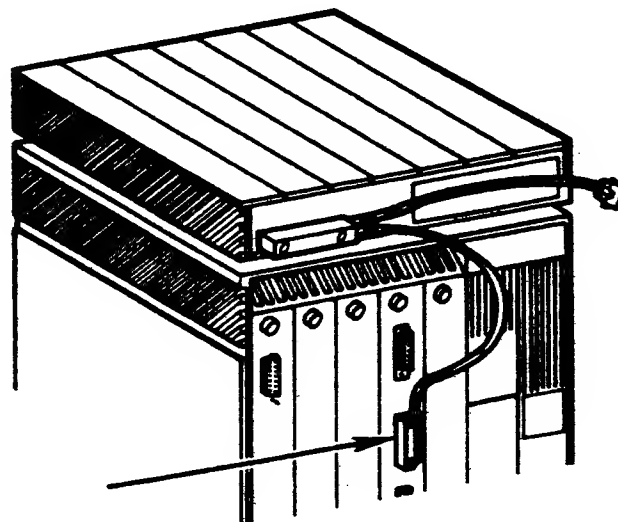

Figure 2-21. Connecting Cable to C4 Circuit Board
4. Connect the appropriate end of floppy disk drive cable to the C4 circuit board as shown in Figure 2-21.